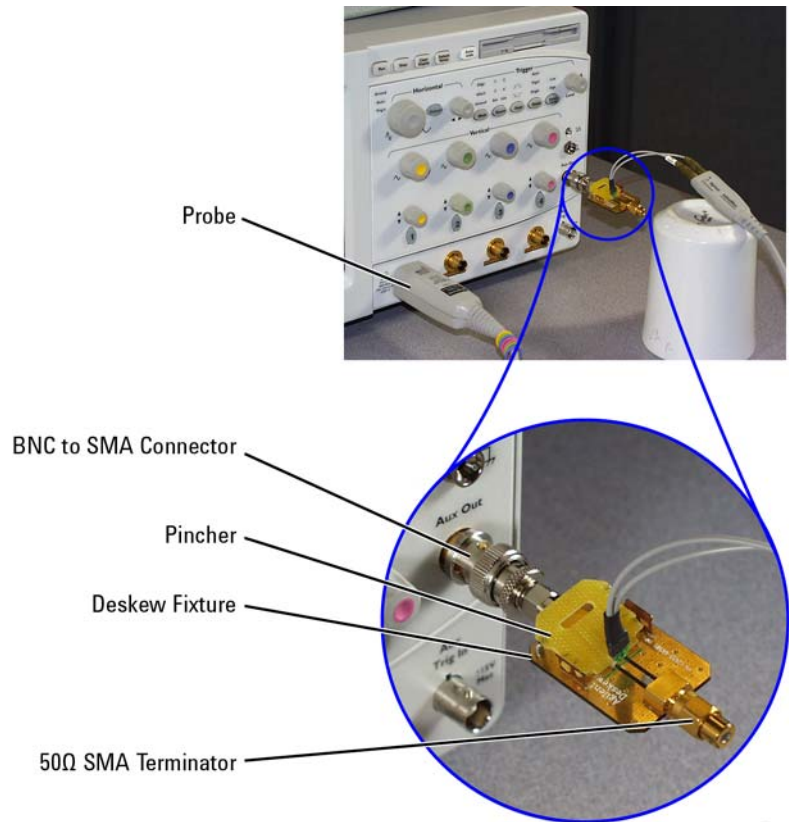

Figure 86 Connecting the Probe and Deskew Fixture
- 1 As shown in Figure 86 on page 123, connect BNC (male) to SMA (male) adapter to the deskew fixture on the connector closest to the yellow pincher.
For the following procedure, refer to Figure 86 on page 123.